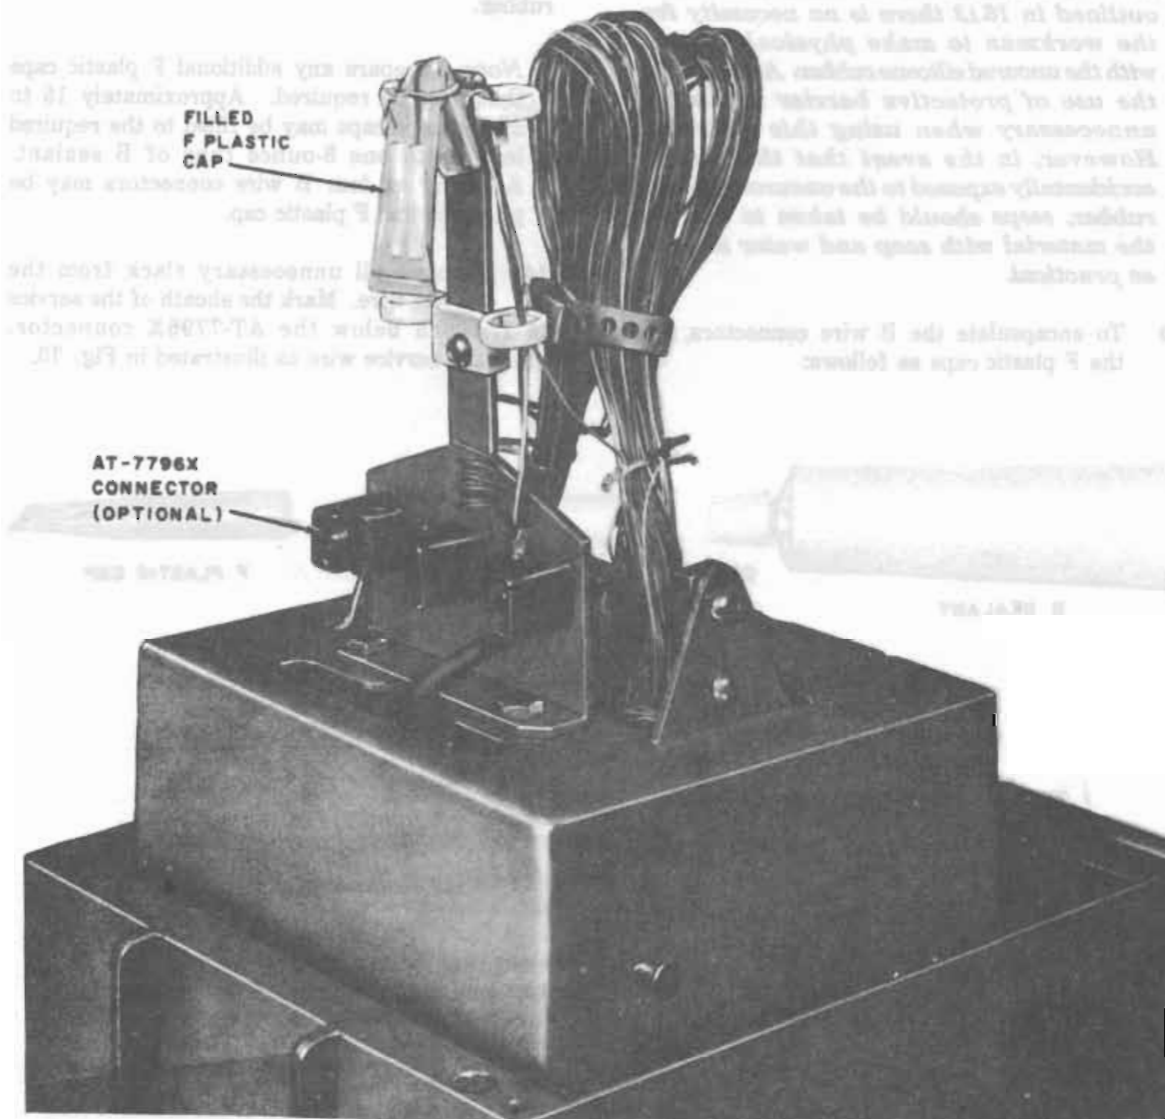

Fig. 71—Service Wire Installed—F Cable Closure
- (1) Run the service wire conductors to be joined, up through the plastic clips on the wire bracket and bend down (Fig. 71).
- (2) Remove the assigned cable pair from the binder group and cut the cable pair (see 7.02).
- (3) Run the cable pair up through the plastic clips on the wire bracket and bend down (Fig. 71).
- (4) Cut the service wire conductors and cable pair conductors even, 3 inches below the top plastic clip.
- (5) Connect the cable pair and service wire conductors with B wire connectors (see 7.03).
- (6) Insert the B wire connectors as far as possible into the filled F plastic cap.
- (7) Fold the F plastic cap at a point approximately 1/4- to 3/8-inch from the nearest connector. The silicon rubber compound should extrude to both sides of the fold. Place the folded cap so the open end faces downward. This will prevent the collection of the water in the cap. Bind the folded cap with a scrap conductor or tape with two turns of vinyl tape (Fig. 71).